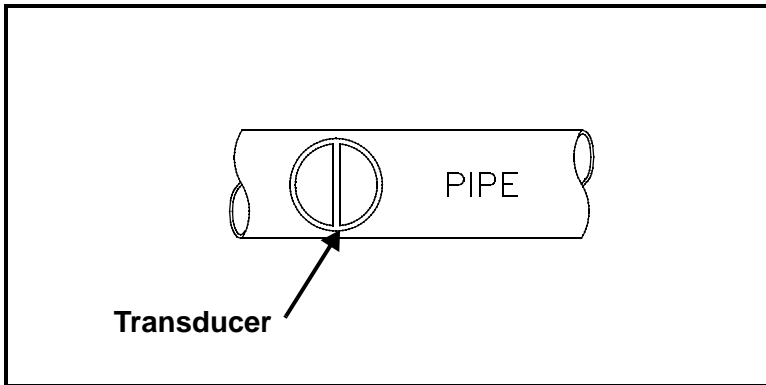

Figure C-1: Proper Alignment of Transducers for Cylindrical Surfaces
B. Transducer Positioning/Alignment - For proper sound coupling the transducer must be pressed firmly against the test surface. On small diameter cylindrical surfaces such as pipes, hold the transducer so that the sound barrier material visible on the probe face is aligned perpendicular to the center axis of the pipe. See Figure C-1 below.